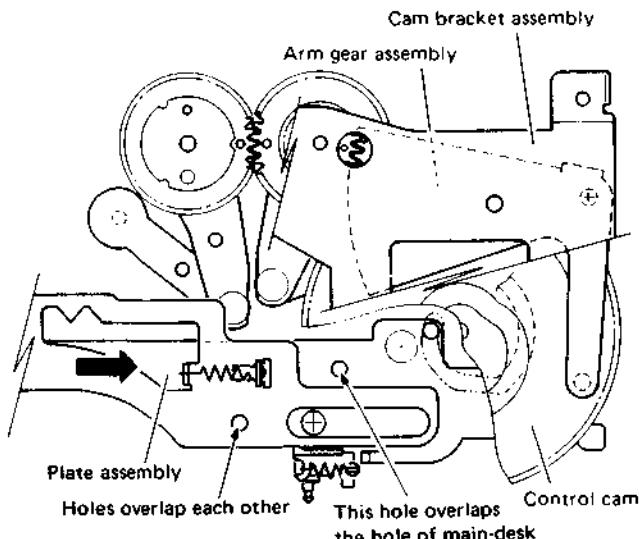

Fig. 1-3-4 Cam bracket assembly
- Push and hold the plate assembly so that the hole of the plate assembly overlaps the hole of the main-deck, as shown in Fig. 1-3-4.
- When the hole of the plate assembly overlaps the hole of main-deck, refer to Fig.1-3-4, confirm that the V-cut of the slider section just overlaps the V-cut of the outer section of the mode select switch.